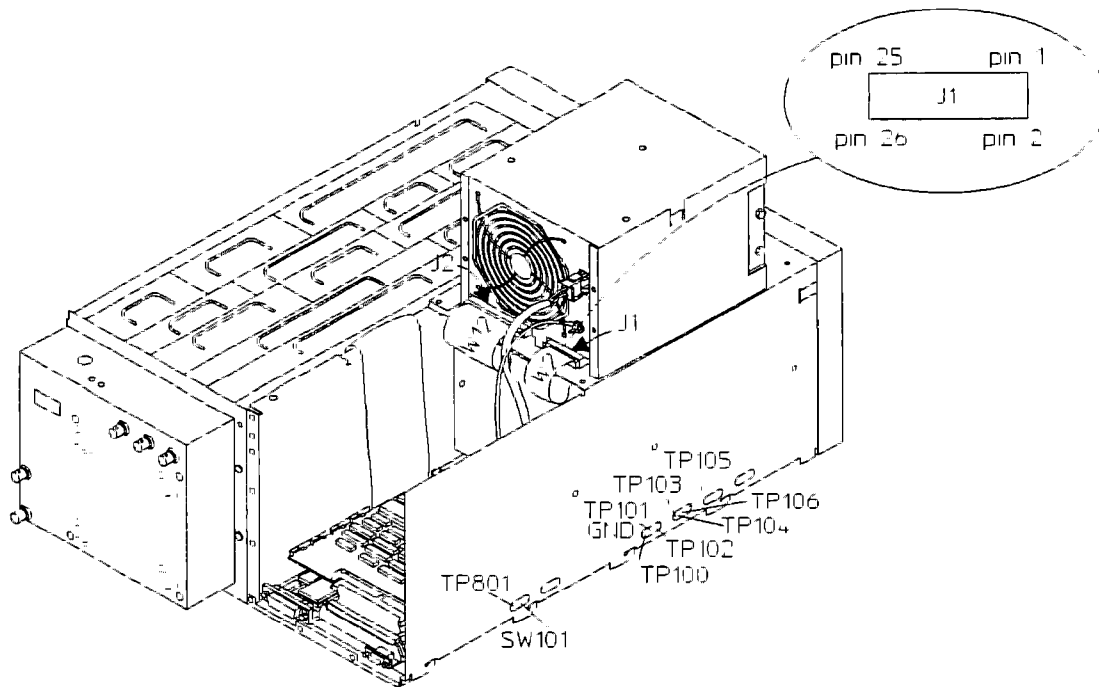

Figure 5-3. Initial Verification Test Locations
7. Set the power switch to ON (I). Check the voltages in table 5-4 (see figure 5-3).
- b. Set the power switch to ON (Ⓛ). With a logic probe, check J1 pin 13 (PVALID) on the Power Supply assembly for a TTL logic high (see figure 5-3). If the signal is incorrect, the Power Supply assembly is faulty.